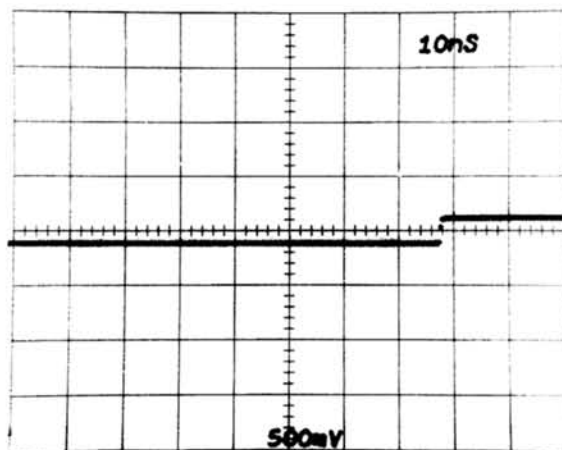

Fig. 7-9. Step Signal from 284 Pulse Generator at .5 V/DIV.
g. The step signal should be like that shown in Fig. 7-9; if not, try adjusting the 284 TD BIAS control.